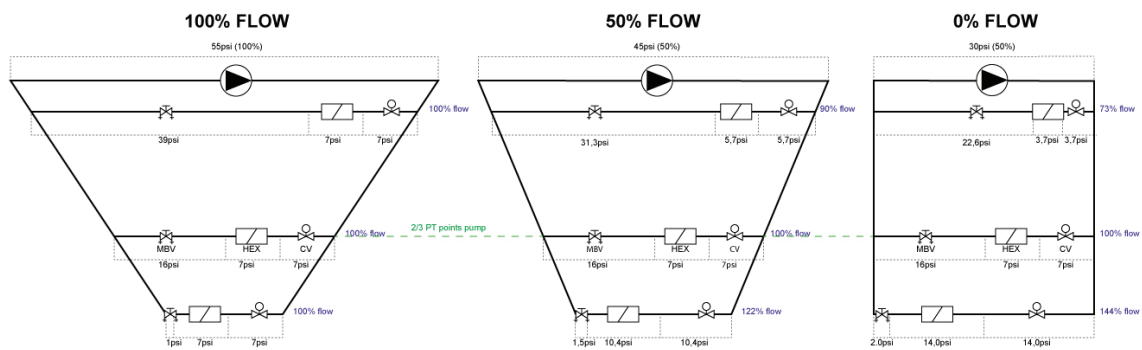

Figure 3 Pressure distribution for different flows in the system.
When the installation is only partially loaded, which is more than 95% of the time, we run into the limitation of the balancing valve and its inability to react to changes in the operating conditions. Because valves will start to close, the dynamics in the system change and the available differential pressures (ADP) will rise. Rising differential pressures mean higher flows. Speed-controlled pumps may provide partial relief for this problem, but it is not the panacea it is usually made out to be, as can be seen in Figure 3.
Now observe what happens to the pressure when we reduce the flow to 50%, as can be seen in the middle figure. The circuit at two-thirds of the installation pressure is still fine, since the pressure is kept constant at the measuring point. However, the ADP for the other circuits is changing. The circuit closest to the pump now has an underflow, even with the valve fully open. If the valve in the circuit furthest from the pump is fully open, as is likely to happen when the control is outside of its P-band, it has an overflow. When the system is on very low loads, or close to 0% flow, as can be seen on the right side of Figure 3, the problem intensifies with bigger over- and underflows occurring.
If the installation is complicated with a lot of branches, it is sometimes difficult to determine where the proper place on the installation you should install the Pressure Transmitter (PT) points of the pump. Based on Figure 3, you can now make a
If there is a low authority, the ADP will rise substantially as the valve is closing. The smallest flow the valve can reliably control will, therefore, be much bigger than expected. To calculate the installed turn-down, we need to multiply the theoretical control ratio with the authority. In our example from Figure 3, that would mean: $1:50 \times \sqrt{7/55} = 1:18$ (control ratio $\times \sqrt{\text{nominal differential press} / \text{max. diff. pressure with closed valve}}$), so real minimum controllable flow rate is close to 5%.